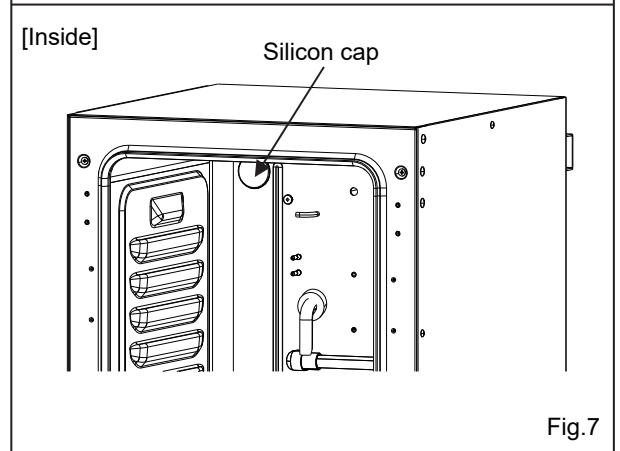
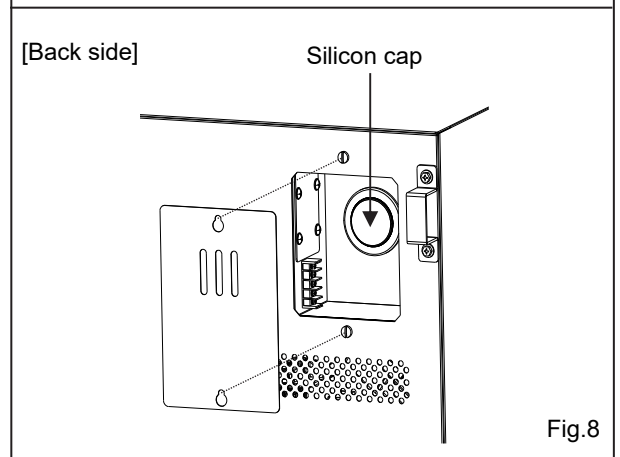

Fig.7
Fig.8
8. Remove the silicon caps for the access port from the interior and exterior (Fig.7 and Fig.8).